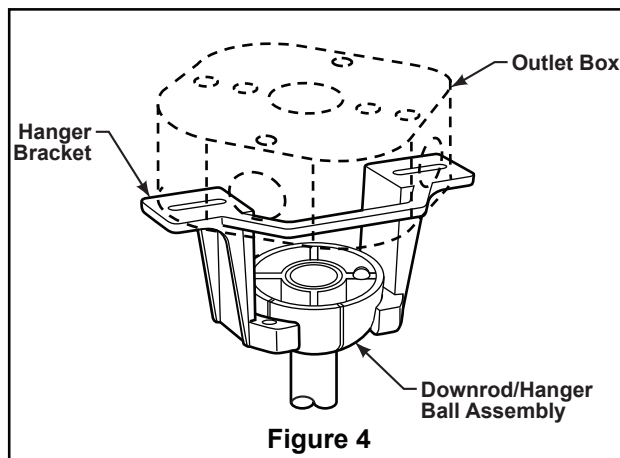

Figure 4
4. Slide downrod into the downrod support on top of the motor. Install the clevis pin by aligning the holes in the downrod support with holes in the downrod. Secure clevis pin with hairpin clip. Tighten the two set screws with nuts in the downrod support. (Figure 4)
2. Carefully lift the fan and seat the downrod/hanger ball assembly onto the hanger bracket that was just attached to the outlet box. Be sure the groove in the ball is lined up with tab on the hanger bracket. (Figure 4) This fan is intended for standard and angled mounting options only. Closemount and flushmount options are not available. For angled ceilings, note the angle can be no more than 19°.